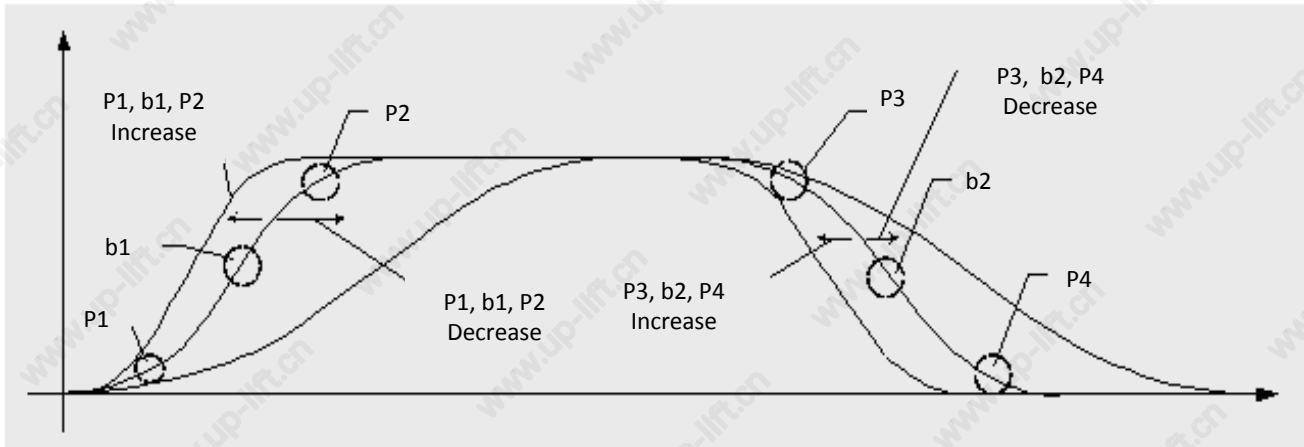

FIGURE 6.2 PARAMETERS ADJUSTMENTS FOR SPEED CURVE
- ✧ Elevator running comfort level can be set through the above 6 parameters. (Comfort level is also related to the drive control parameters.) The relationship between **b1, b2, P1, P2, P3, P4** and running curve are shown in Figure 6.2.